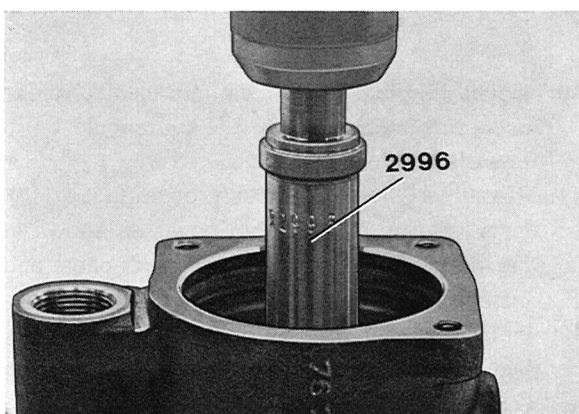

Fig. 6-106. Removing seal
5. Remove the circlip (5) at the drive end.
6. Carefully press out the shaft (4).
7. Press the plate (14) out of the housing. The intermediate piece should follow at the same time, if not already removed.
8. Screw out the plug (23) and shake out the spring (26) together with the valve (27).
9. Press out the needle bearing (9) and seal (8) at the same time with tool 2996, see Fig. 6-106.